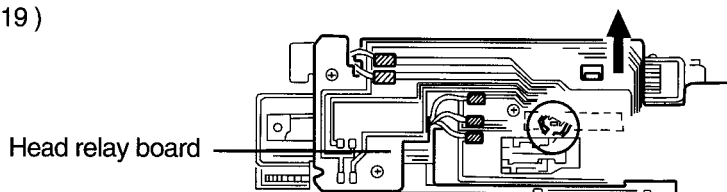

Fig. 19
11. Solder the loading motor and head lead wires to the head relay board, respectively. (See Fig. 19)